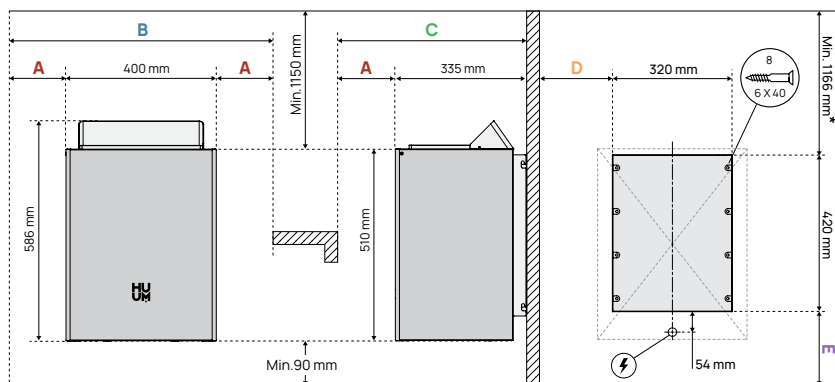

Figure 2. Positioning of the HUUM CORE Wall
- The input of the power cable is located on the back of the heater. The exact position of the cable on the wall is measured in relation to the heater mounting plate and has been indicated in **Figures 2 - 5**.